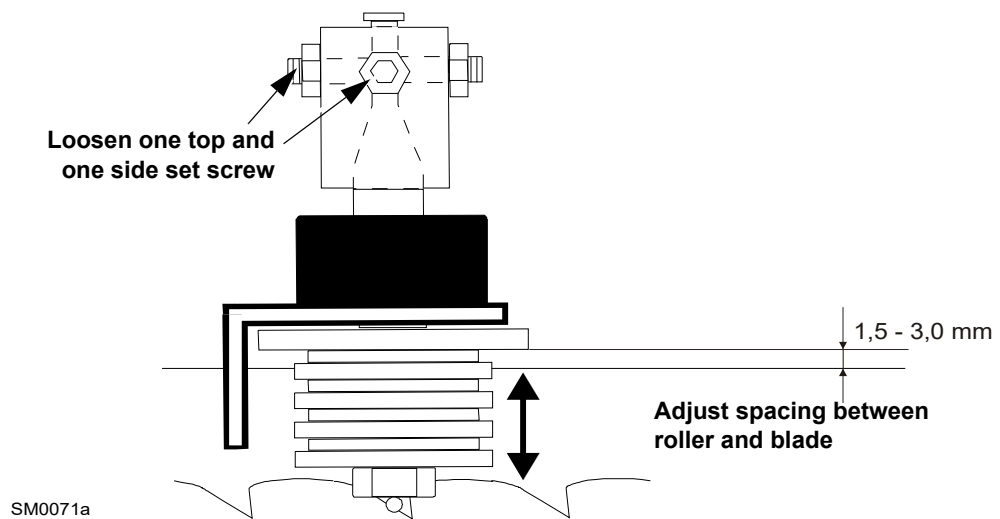

FIG. 4-13
See Figure 4-13.
4. The blade guide roller should be parallel to the blade ($A=B$) or slightly tilted in the horizontal plane as shown in Figure 4-13 ($A=B-6$ mm). If this condition is not met, adjust the roller in the horizontal plane using the side set screws on the blade guide.